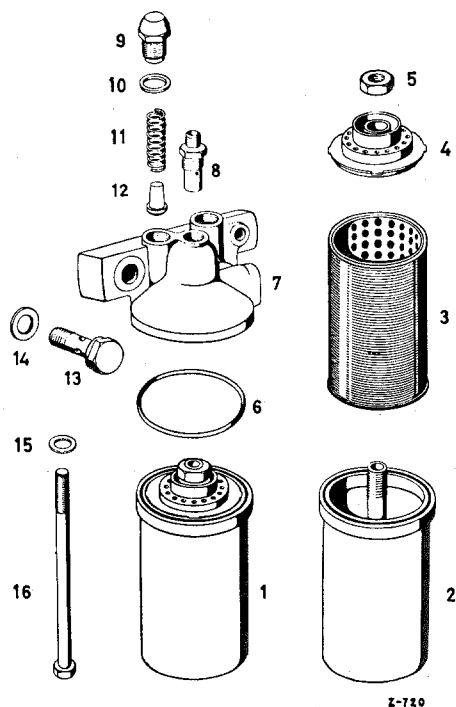

Figure 18-9/5
Note: In order to clean the oil filter the filter housing (5) is not removed from the engine (see Figure 18-9/4).
1. Unscrew the 4 nuts at the housing cover and pull out this cover with the filter element (3) (see Figure 18-9/4).
2. Remove the metal filter element (3) from the housing cover (4) (Figure 18-9/4). For this purpose loosen the fixing nut at the bottom ring and remove this ring and the metal filter element from the housing cover.